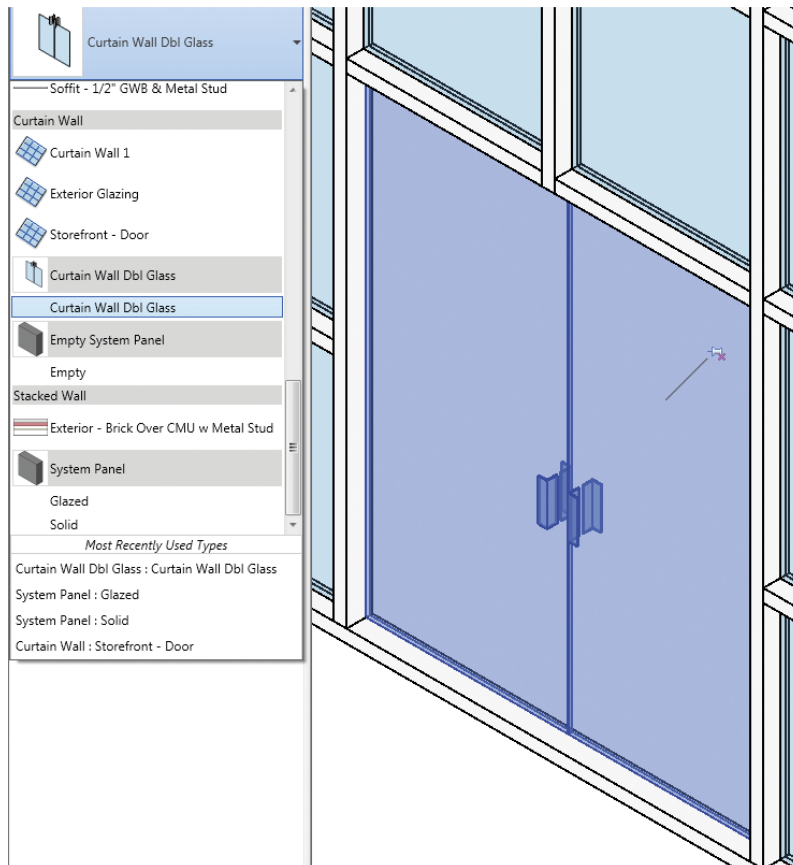

FIGURE 2.31 Curtain wall door condition
2. Next, you want to add a door to the curtain wall in the largest panel. Select the large System Panel Glazed panel in the center and click Unpin. Change the panel to the Curtain Wall Dbl Glass panel from the Type Selector (Figure 2.31).